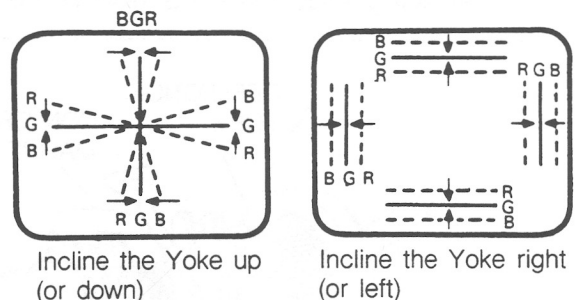

Fig. 14 CIRCUMFERENCE CONVERGENCE
3. Tilt front of the deflection yoke up or down to obtain better convergence in circumference. (see Fig. 14) Push the mounted wedge into the space between picture tube and the yoke to hold the yoke temporarily.
5. Tilt front of the yoke right or left to obtain better convergence in circumference. (See Fig. 14)